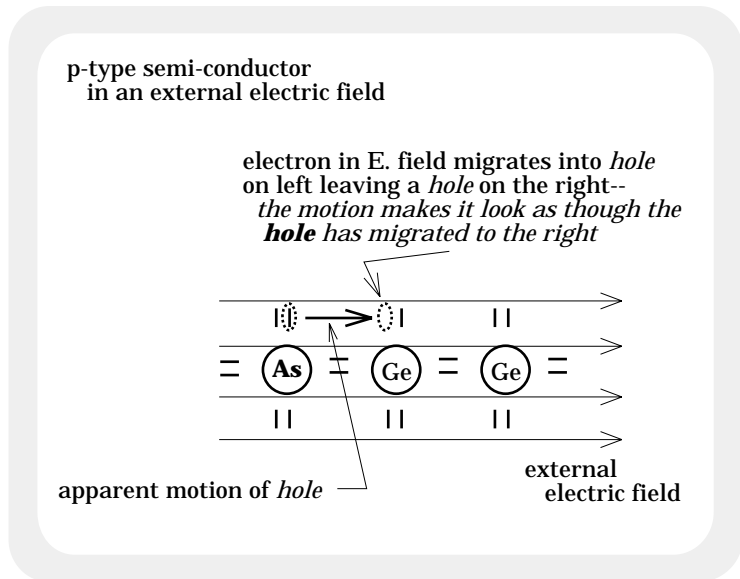

FIGURE 21.3b
b.) Placing a small electric field across this structure (Figure 21.3b) motivates electrons from neighboring atoms to migrate up-field into the vacancies.